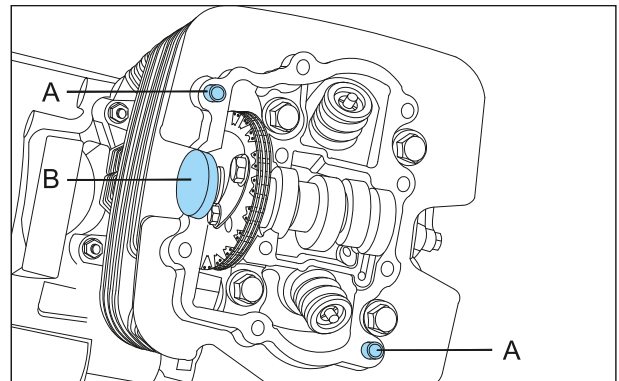

Fig. 3.52
- Take out the 2 nos. Tubular dowel cylinder head cover knock of dia 8mm (A). (Fig. 3.52)
- Take out the plug cylinder head (B). (Fig. 3.52)